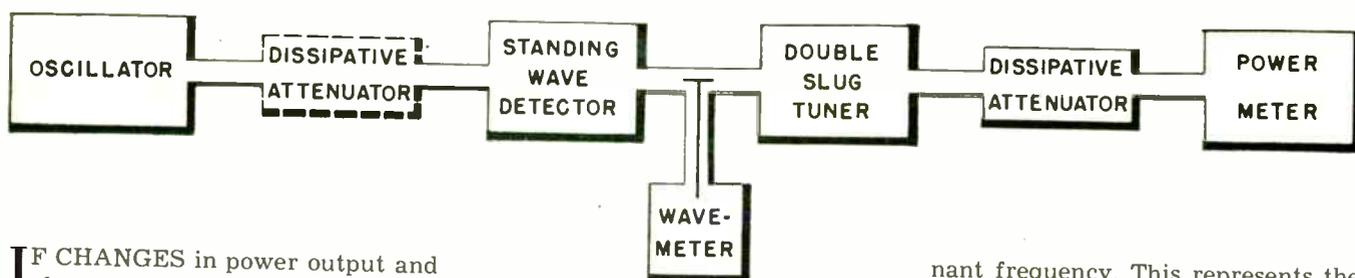

Fig. 1
IF CHANGES in power output and frequency of an oscillator corresponding to changes in its load are plotted on a circular type of impedance diagram such as a Smith1 chart, one obtains contours of constant frequency and power output. Such a plot is known as a Rieke diagram.2 This form provides a powerful tool for the analysis of the performance of microwave oscillators such as determining the proper coupling between an oscillator and a transmission line, and other performance factors. For example, an oscillator is normally designed to deliver power to a matched load, but if the load changes, both the frequency of the oscillator and the power it delivers may change. Since we do not often have control over the variations in the load connected to an oscillator, it is desirable to design the oscillator in a way to minimize the changes in power and frequency. Rieke diagrams will aid us in doing this. The equipment needed for acquiring the data of a Rieke diagram is shown in Fig. 1.
As to the wavemeter shown in Fig. 1, it may be any one of three main types, operating according to the transmission or absorption principles: (1) coaxial-line, (2) cylin-